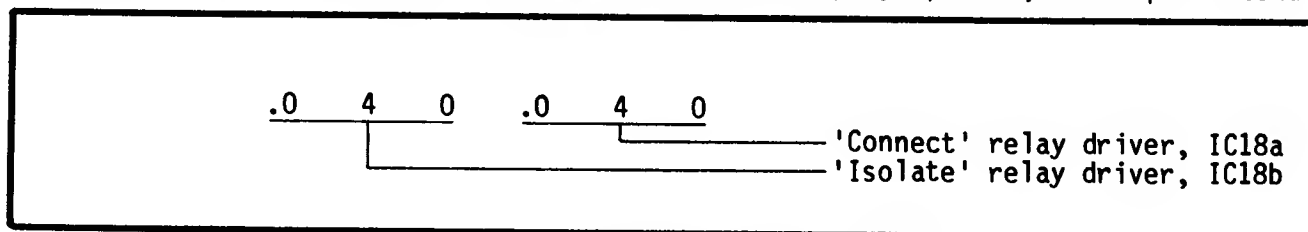

Fig 7.4 Monostable Timing Display
7.4.10.1 Special function 52 permits the operation and timing of the reverse-power protection-unit relay-drive monostables to be checked. The durations of the monostable pulses are measured and displayed, in milliseconds, in the frequency display, as shown in Fig 7.4. Both pulse durations should be between 30 ms and 55 ms. The timing sequence is repeated, and the display updated, twice per second.